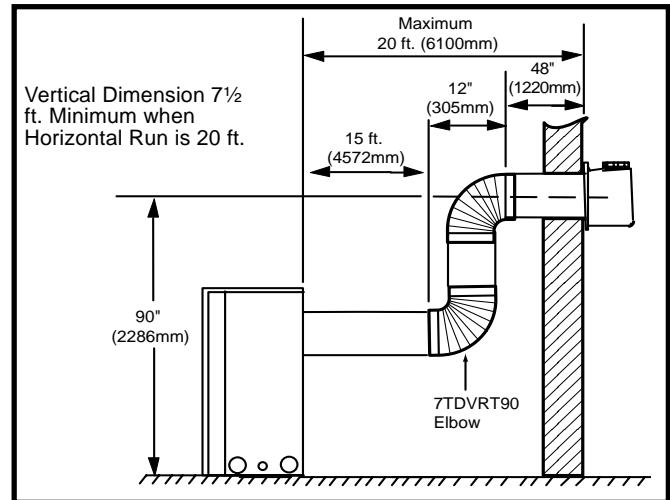

Fig. 17 Maximum dimensions.
- The maximum horizontal vent run is 20 ft. (6100 mm) when the vertical vent rise is 7½ ft. (2286 mm). (Fig. 17)
- The maximum number of 90° elbows per side wall installation is three (3).